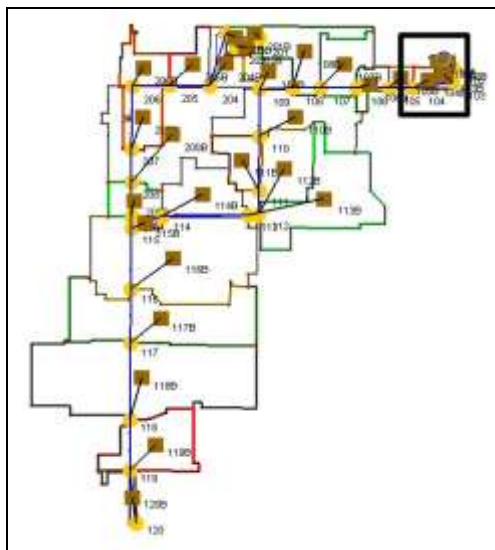

Figure 3 Zoom to first initial sub-area
1. Use the **Zoom**  tool to zoom in to the area shown in the upper right corner of Figure 3